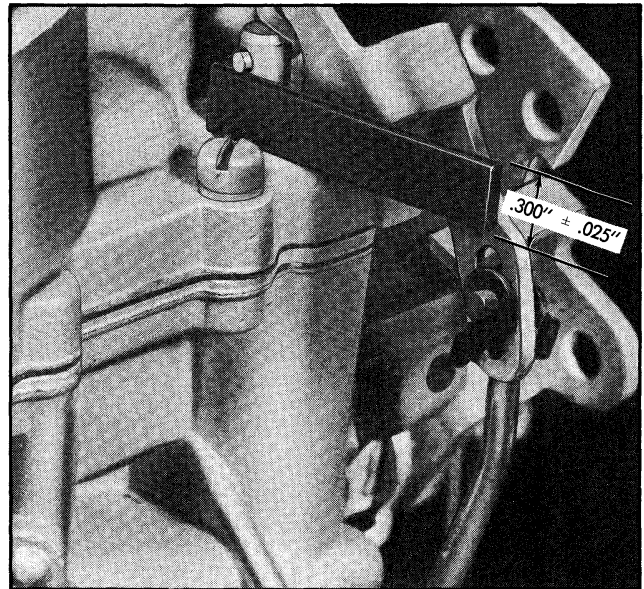

Fig. 6B-98 Checking Pump Adjustment
16. Install choke shaft lever, washer, and screw on end of choke shaft (Fig. 6B-97).